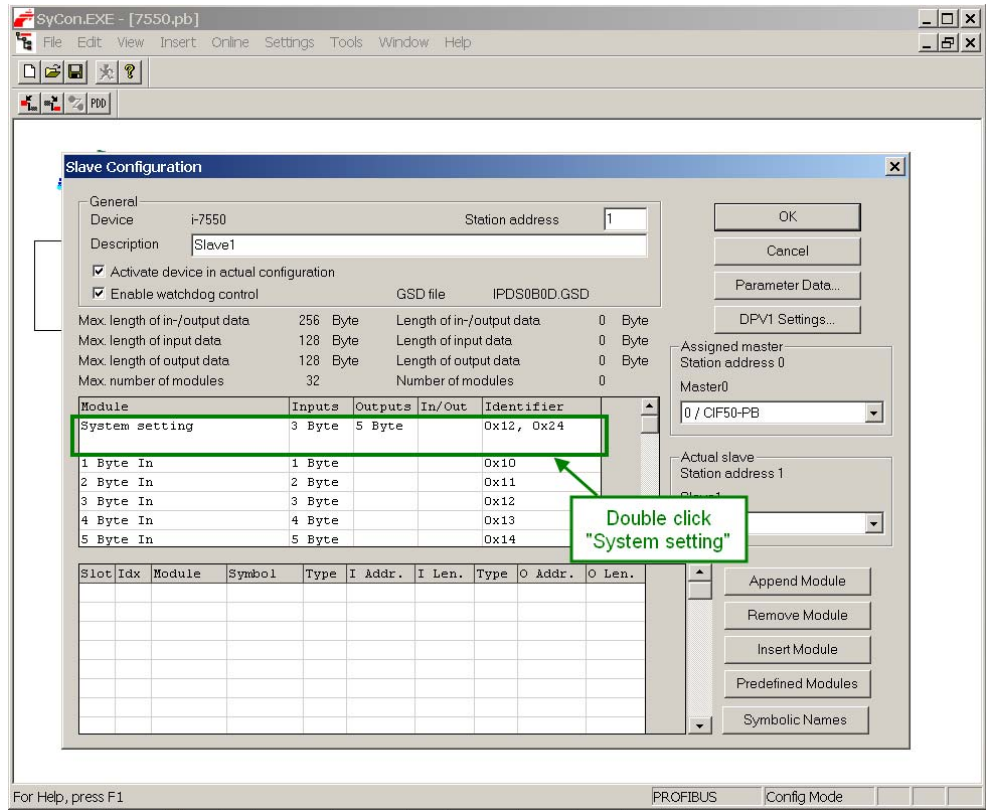

Figure 32: Select “System setting”
- Select “**System setting**” (*Figure 32*). “System setting” always has to be selected otherwise no communication can be established between the converter and the serial network.